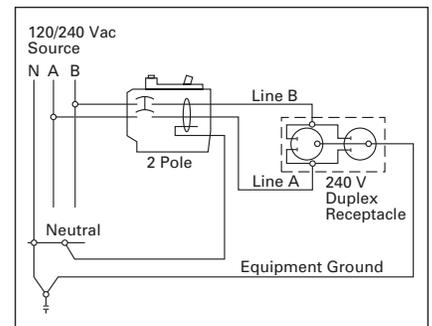

Figure 26.3-4. 2-Pole 240 Volt Load Application Sourced by 120/240 Vac
- ① Common trip refers to 2-pole 240 volt load application sourced by 120/240 Vac (see Figure 26.3-4).